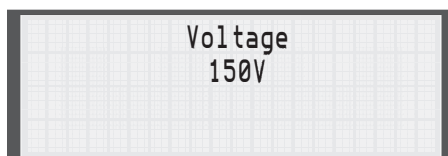

Fig. 2.26
3. Press the Volts key and use the Arrow keys to set the voltage (**Fig. 2.26**), then press the Enter key.